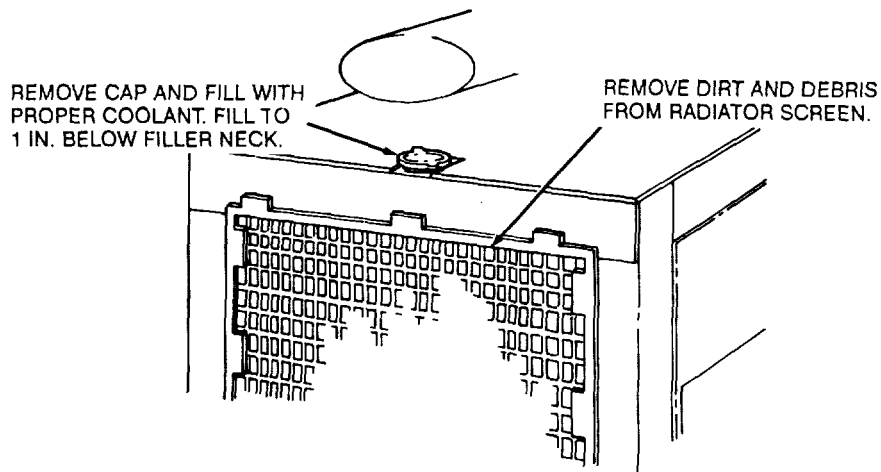

Figure 46. Radiator service.
- b. Check coolant level in radiator. Coolant should be 1 in. from bottom of filler neck (fig. 46).